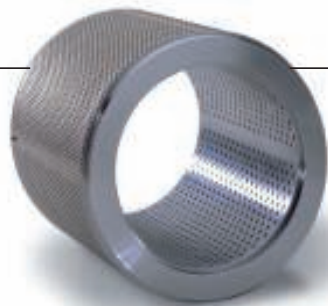

FIGURE 4. The laser-cut, stacked-disk cage design is a concept in multi-path, multistage acoustic energy management that reduces valve-caused aerodynamic noise
At the top of the noise attenuation hierarchy is the laser-cut, stacked-disk cage assembly (Figure 4) that provides up to 40 dB(A) attenuation in even the most severe applications. It employs unique passage shapes that stage pressure reduction to reduce acoustic efficiency and turbulence. Utilizing the expanding area principle to compensate for volumetric expansion of depressurizing gas, the velocity is managed through the valve. The parallel flow passages ensure exit jet independence, avoiding jet recombination and providing efficient coupling into the valve body. This stacked-disk cage design actually shifts the frequency spectrum, which reduces the audible acoustic energy and strain energy in piping. Combined with the complementary body design of the control valve, the solution prevents impingement on the body wall and offers enough cavity size and shape to control secondary noise sources.